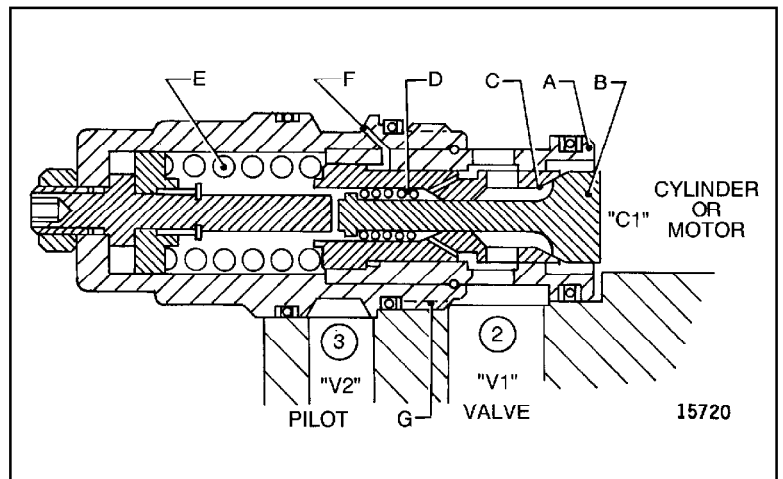

Figure 36 CUTAWAY VIEW OF COUNTERBALANCE VALVE
Positive internal piloting pressure from supply line "V2," opposite the controlled (counterbalanced) line "C1" is utilized with the load induced pressure from line "C1" (Figure 36) pushing against the check valve seat end of the spool, to open the valve. With the pilot assist feature, internal pilot pressure from supply line "V2" (Figure 36) effectively reduces the pressure setting of the valve by allowing pilot pressure through pilot passage (F). This forces the check seat and valve spool assembly (C) to the left against the major bias spring (E). The loaded machine member is restrained until pressure is available from the opposite cylinder line "C1." That means the actuator cannot move faster than the speed resulting from the pressurized supply (pump) fluid in line "V2." This action permits smooth, positive control of overrunning loads and cushioned deceleration. This positive control of overrunning loads occurs due to the drop in pressure that takes place during the overrun condition in the supply pilot line "V2." This allows the major bias spring (E) to move the valve spool assembly to the right closing the valve.